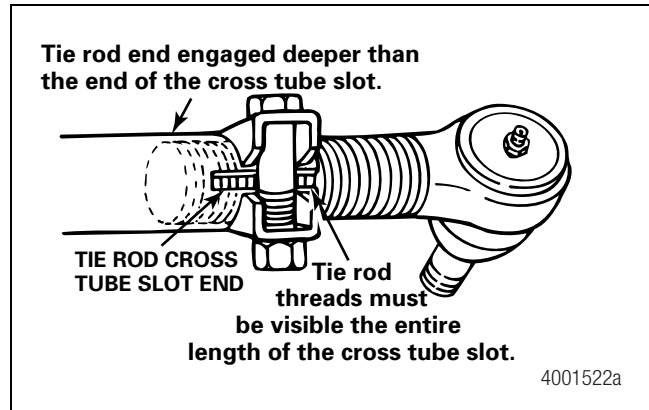

Figure 10.35
- C. Install the threaded portion of the tie rod end into the cross tube beyond the point where the tube slot stops. Figure 10.35.